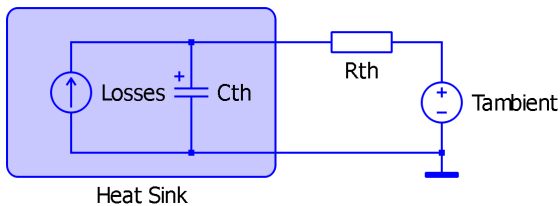

Figure 2: Electrical equivalent of thermal circuit
To perform a thermal simulation using PLECS, three components are needed: a Heat Sink, semiconductor component(s) with a thermal description and an Ambient Temperature. The thermal simulation takes place at the same time as the circuit simulation but the thermal components are represented in PLECS in a separate domain. The thermal quantities and their analogous electrical equivalents are given in Table 2. In the analogous electrical circuit, conduction losses of a component are modeled as an ideal current source, the thermal impedance between the component and air as a simple resistor or RC chain, and the ambient temperature as a voltage source. This equivalent circuit is shown in Fig. 2.
- 9** Using **Figure 2** and **3** of the device’s datasheet it is possible to estimate the conduction losses. It is recommended by the manufacturer to refer to the “ $V_{GS} = 15$ ” curve unless you are not driving the gate with full voltage.